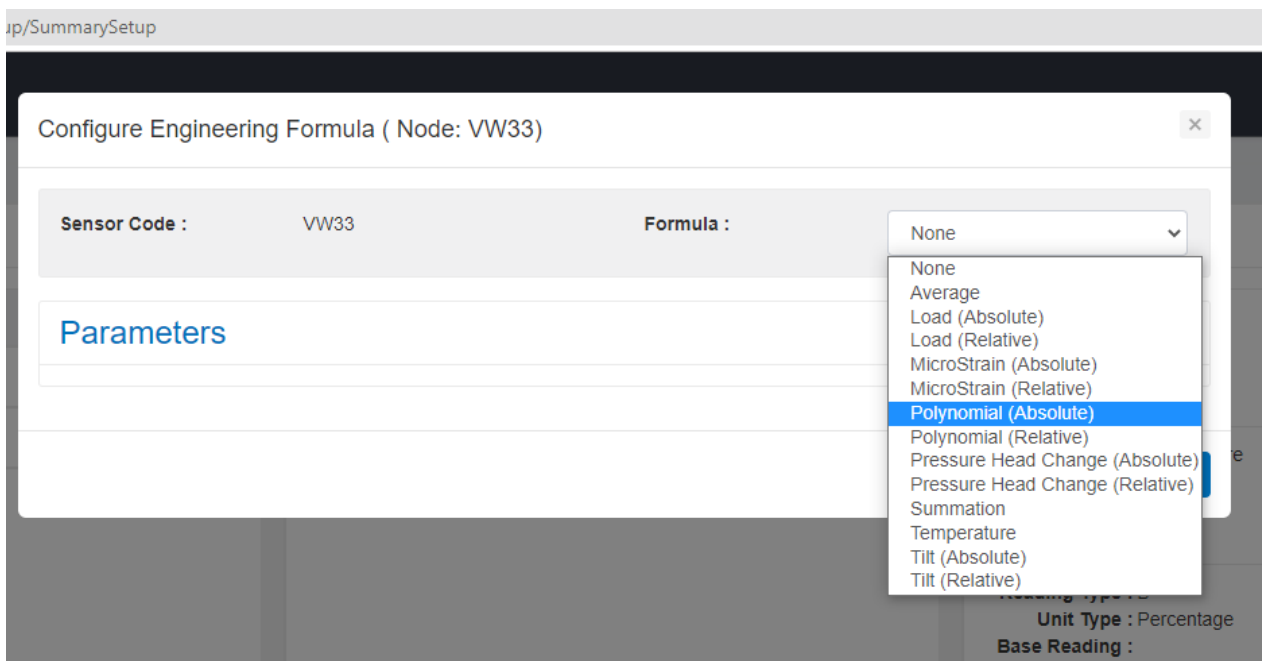

Figure 3-31
- On selecting Σ symbol, window as shown in figure 3-31 will appear. Click on the drop down arrow on the 'Formula' tab and select the desired formula type. In the example shown below in figure below, "Polynomial (Absolute)" has been selected for the vibrating wire sensor.